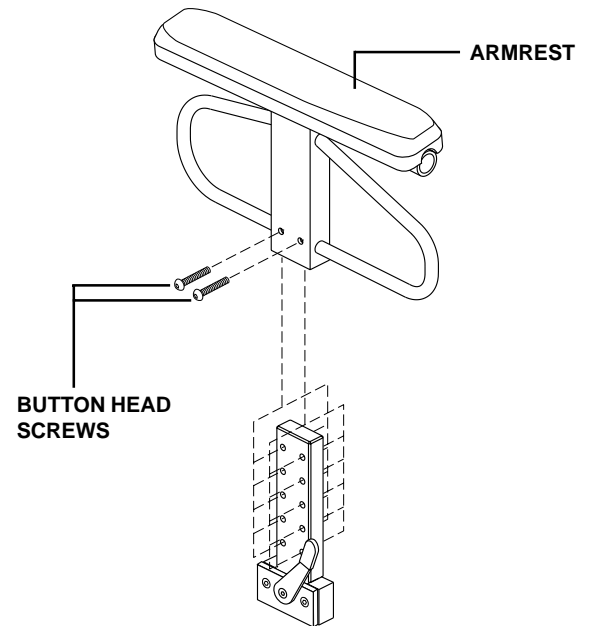

Figure 11. Removable Armrest Height Adjustment
1. Use a 5/32-in. hex key to remove the two button head screws from the side of the armrest. See figure 11.